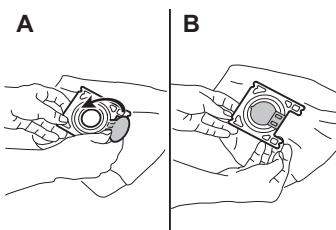

Fig. 21
6. You can close the dust filter bag using the corner (Fig. 21/A,B) so that no dust escapes from it during transport.